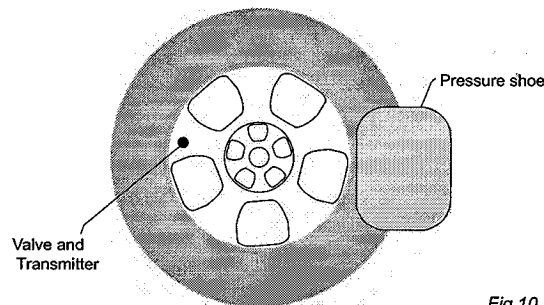

Fig.10
- Remove the tire/wheel assembly from vehicle and deflate completely. Orient the wheel to place the transmitter 180° from the pressure shoe for unseating both the top and bottom beads so that the pressure shoe or tire bead will not damage the transmitter. (See Fig.10)